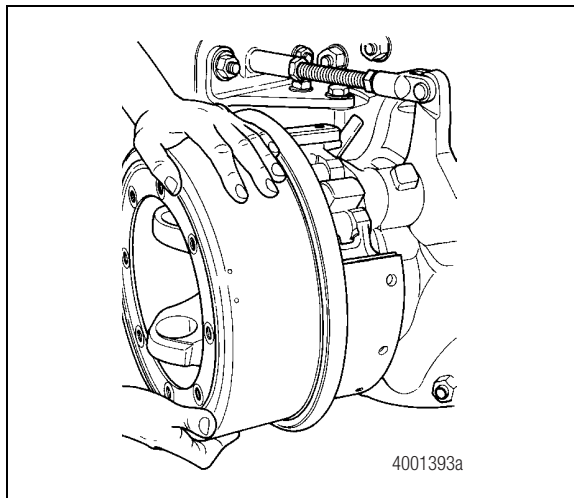

Figure 3.23
4. Remove the bolts and the washers that secure the brake drum to the flange on the yoke. Slide the drum onto the drive shaft. Figure 3.23.